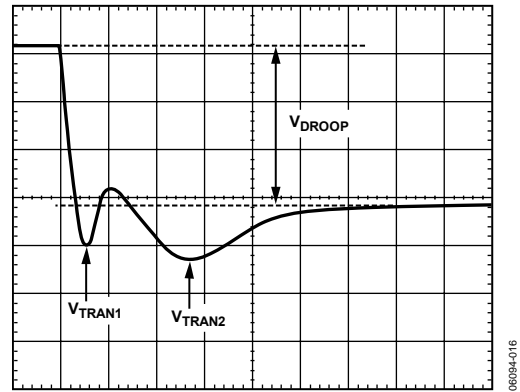

Figure 18. Transient Setting Waveform
18. With the dynamic load still set at the maximum step size, expand the scope time scale to either 2 μ s/div or 5 μ s/div. The waveform can have two overshoots and one minor undershoot (see Figure 18). Here, V_{DROOP} is the final desired value.